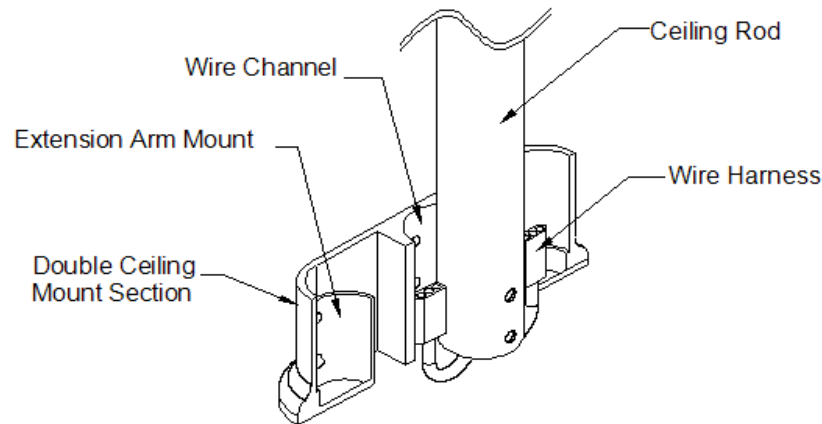
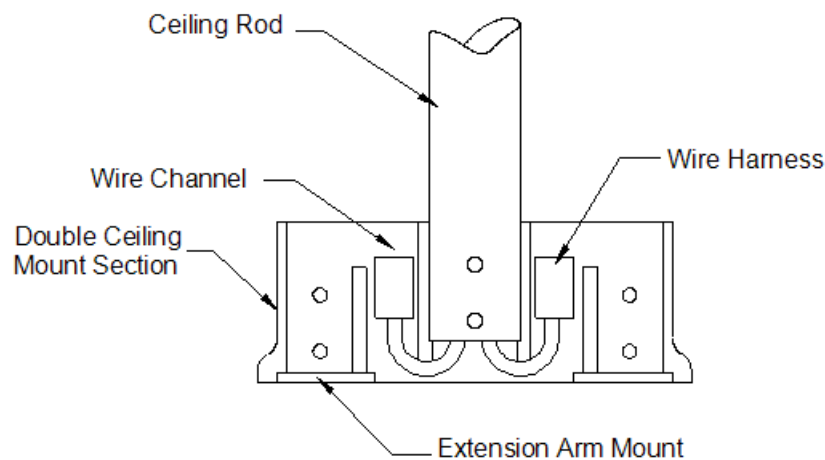

Figure 10: Wire Harness Positioning
Figure 11: Wire Channel
- Bring one section of the double ceiling mount casting to the ceiling rod and fasten it to the rod with the 2" long bolts (P/N 0001311) and cap nuts (P/N 0001312). Tighten the cap nuts just enough to hold the section in place; they do not need to be fully tightened at this time. Bring an arm assembly to the double mount section and fasten the bushing on the extension arm into the extension arm mounting cavity with two 3/8" long mounting screws (P/N 0001291). Install the other arm assembly to the section with two more 3/8" long screws. Route the wire and Molex connector from the ceiling rod into the wire channel as shown in **Figure 10: "Wire Harness Positioning"** and **Figure 11: "Wire Channel"**. **Plug the connector at the end of each Arm assembly to the mating Moles connector from the wire harness. Place each set of wires within the channel area.**